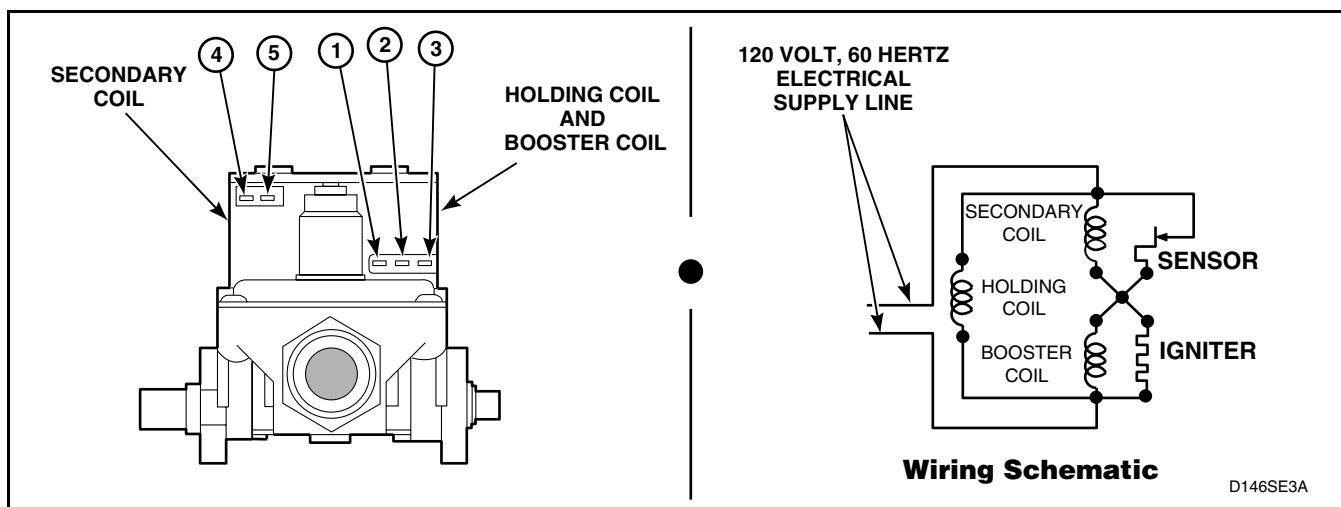

Figure 31
Refer to *Figure 31*
1. Remove disconnect blocks from gas valve coils. Refer to *Figure 31*.
1. Remove valve wire harness disconnect block from the holding and booster coil. Refer to *Figure 31*.
3. Set test meter to read AC voltage and apply meter probes into terminals on the dryer harness that would correspond to terminals “1” and “2” on the coil. Refer to *Figure 31*. Meter should register line voltage in all temperature settings, except FLUFF which should read “zero” VAC.